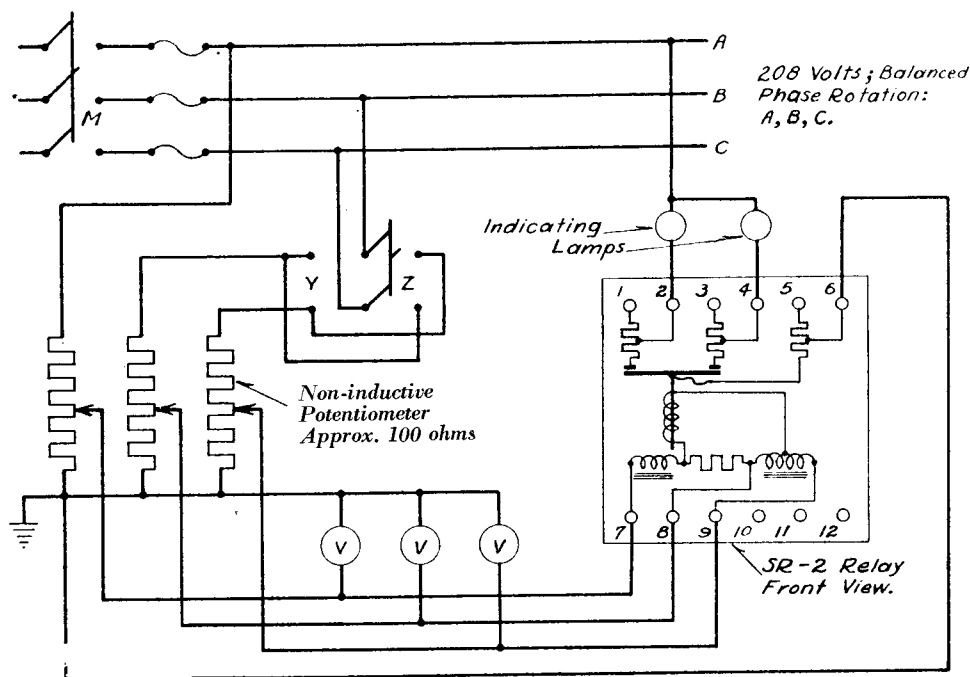

FIG. 6—TEST CONNECTIONS FOR THREE-PHASE TEST AND ADJUSTMENT OF THE TYPE SR-2 VOLTAGE RESTRAINING RELAY.
8. The only adjustment necessary on the type SR-2 relay is that of the minimum voltage at which its contacts close. This is made by adding weights to the movable plunger. The recommended setting is 95% of normal network voltage, and can best be made by energizing the relay with balanced three-phase voltages as indicated in Fig. 6. Switches "M" and "Y" should be closed for this test. With the relay adjusted to close its contacts on 95% of normal 120/208 volts it should just open its contacts when the balanced voltages are reduced to about 90% of normal. The stationary contacts of the relay